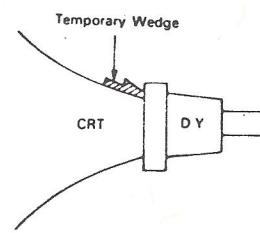

FIGURE 5
4. Move the two Purity Magnets and bring the Magenta belt to the mechanical center of the screen (See Fig. 5) The vertical center position should be set VRS to  $-5/64"$  (-2 MM) as shown in Fig. 6.
10. Insert the temporary wedge as shown in Fig. 5 and adjust the angle of Deflection Yoke.